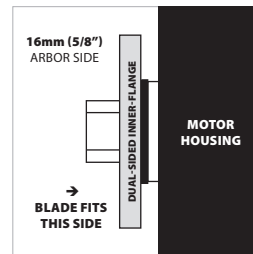

Fig. 40f
- When 'reversed', the 25.4mm (1") ring elevation will be pointing 'inwards' to the motor. This now provides a 16mm (5/8") arbor on the adjacent side (**Fig. 40f**).